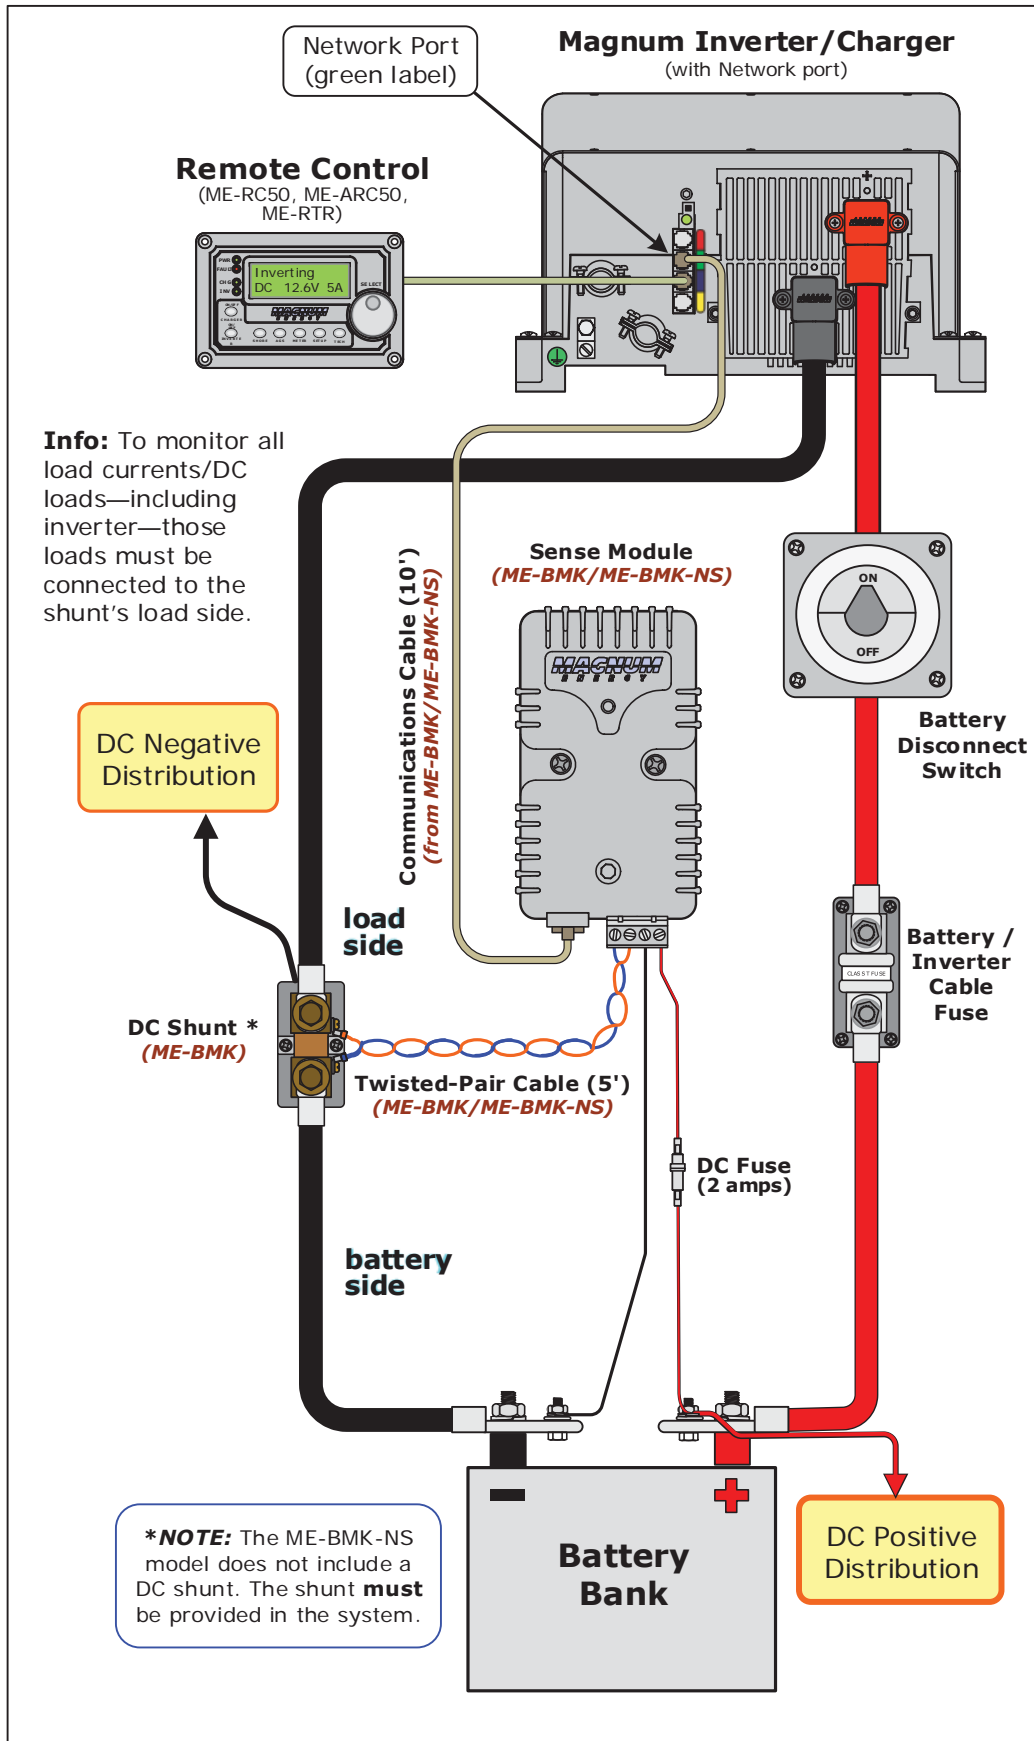

Figure 2-1, ME-BMK Basic Installation Diagram
To assist in planning and designing the installation, review the basic diagram in Figure 2-1. If installing another network device besides the ME-BMK, refer to Sections 2.2.3 and 2.2.4 for options.
1. Using an appropriate sized cable, connect the inverter's DC negative terminal to the DC shunt's load side (per Figure 2-1).
1. Connect one end of the communication cable to the inverter's network port, and then connect the other end to the network port on the BMK sense module. See Figure 2-1.
4. Using the supplied 5' twisted-pair wire: a) Connect the ring terminal end of the blue wire to the small screw on the **battery side** of the shunt; then, b) Connect the ring terminal end of the orange wire to the small screw on the **load side** of the shunt. Use Figures 2-1 & 2-2 as guides before connecting.